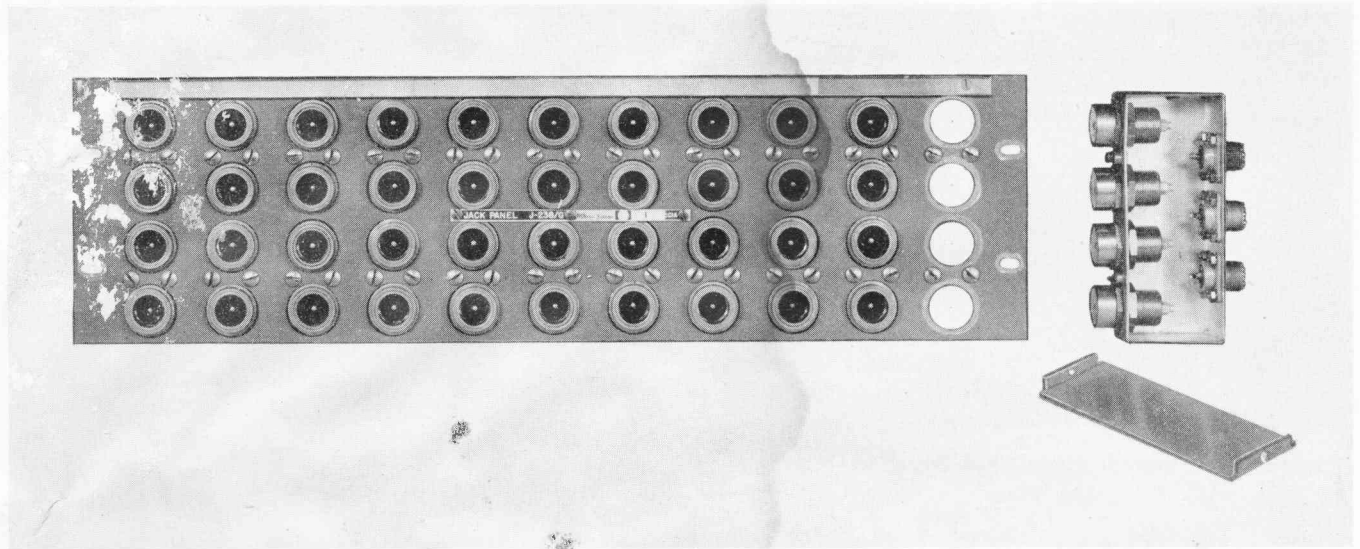

Figure 1-5. Jack Panel AN Type J-238/G, Front View With One Jack Box Navy Type -491729 Removed
(4) JACK PANEL AN TYPE J-238/G (Figure 1-5).—Jack Panel AN Type J-238/G is a size C panel which mounts on the front of the cabinet. It contains eleven jack boxes, Navy Type CIA-291729, in each of which a cable from one Connector-Adapter Navy Type CIA-491652 terminates.